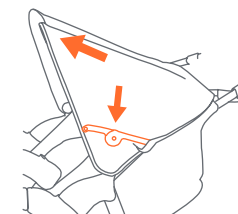

Fig. 8a
- 8) • **To open the canopy:** push forward on the front edge of the canopy. Push downward on the tensioners to secure (Fig. 8a).